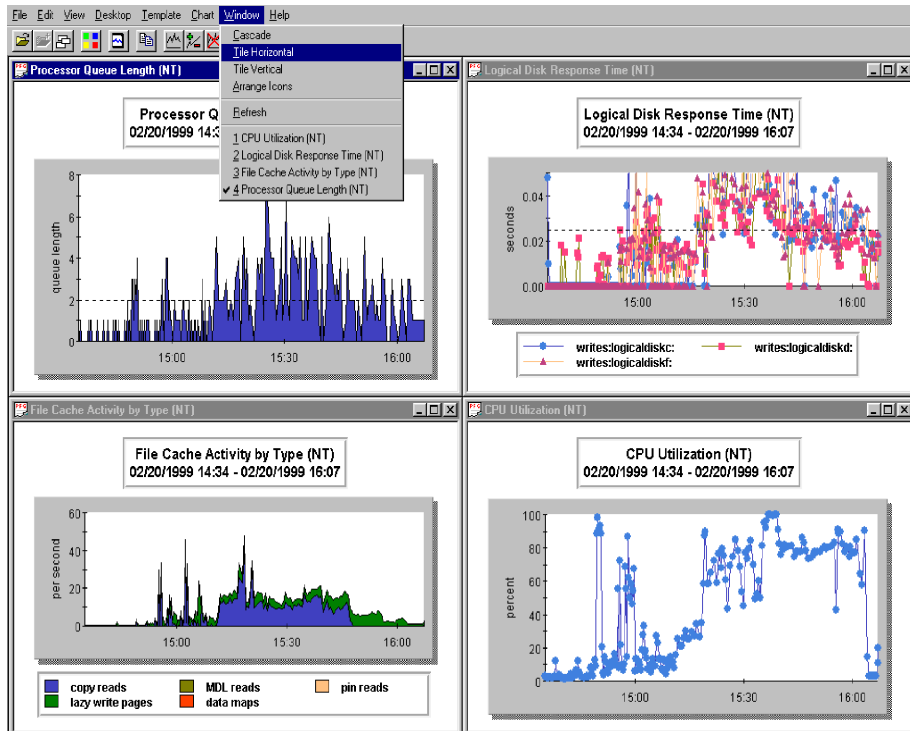

Figure 5.5 All charts opened and tiled
- 5 In the **Window** menu, click **Tile Horizontal**. The four open charts will tile so that each one has its own quadrant (see Figure 5.5 on page 40).